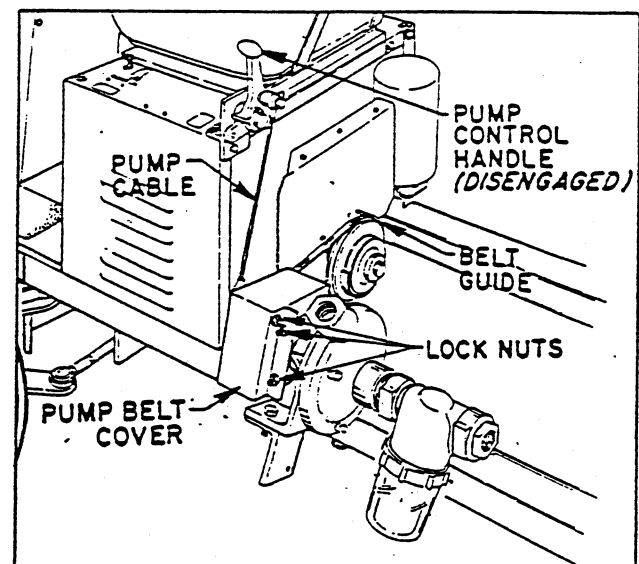

FIG. 4
■ Apply thread sealer and install all of the Fittings, Ball Valves and Qwik-Couplers as shown in FIG. 4, to connect the Suction, Supply, Overflow and Agitator